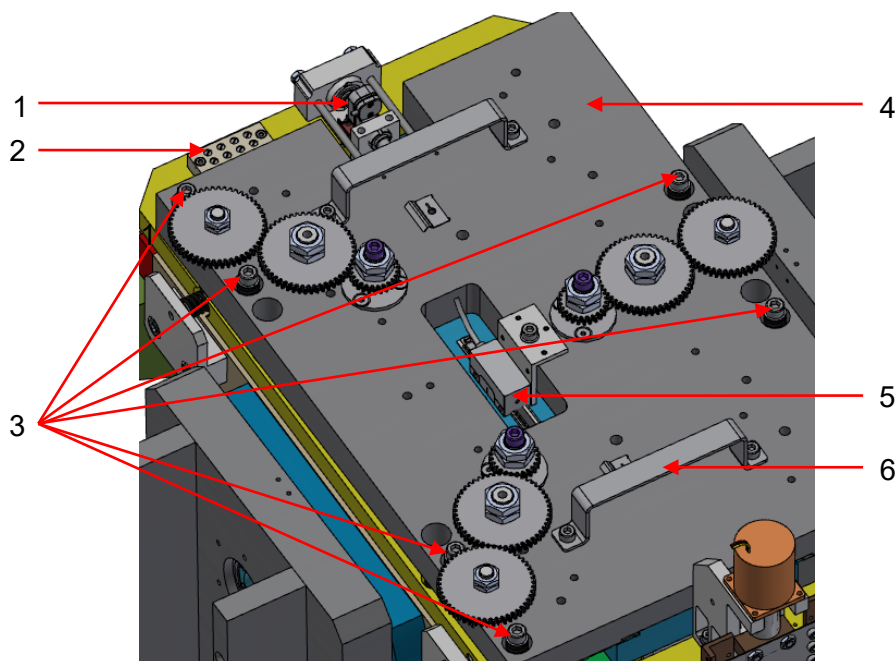

Figure 77: Top view on the M6 mirror assembly
- Disconnect the piezo motor cable from the luster terminal (# 2 in Figure 77).
- Loosen and remove all six fixing screws (# 6 in Figure 77) of the mirror holder base plate to the yaw plate.
- Re-insert the mirror holder assembly into the vacuum chamber and fix it to the yaw plate with the corresponding fixing screws, # 3 in Figure 77.
- Connect the piezo motor cable, the mirror translation encoder cable and the thermocouple wire to their corresponding position, see Figure 77.
- Dismount the mirror holder handles if necessary, # 6 in Figure 77.